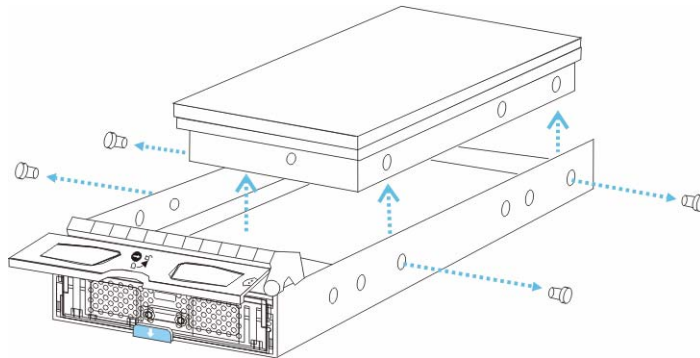

Fig. 6.22 Removing the SATA Hard Drive
- Remove the four (4) retention screws located on the sides of the drive tray (two on each side.) (See *Figure 6.22*)